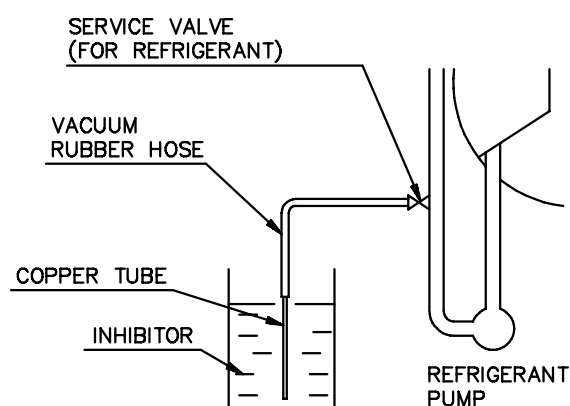

Fig. 7-8.
(refer to Fig. 7-8.)
- (b) Connect the vacuum rubber hose to service valve of Heat Exchanger and fix it with hose band. (Refer to Fig. 7-8.)